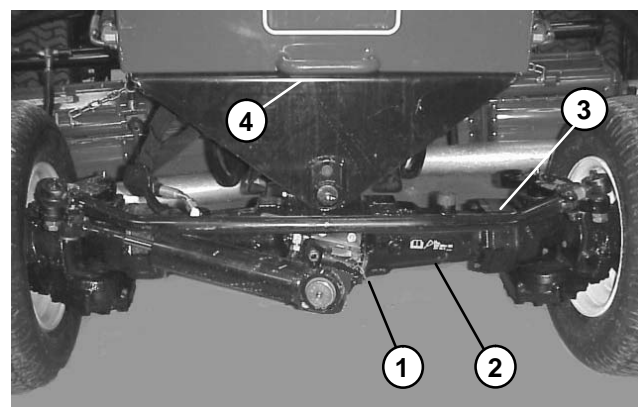

Figure 2
1. The preferred method of lifting the rear end of the machine is (Fig. 2):
- B. On 4WD models, place jack securely under the differential case (Fig. 2).